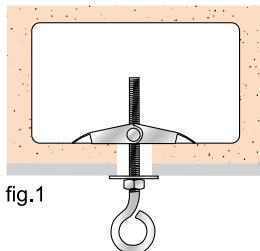
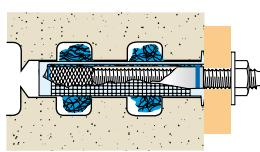

fig.1
fig.2
- **Mechanical interlock** (fig.1 & fig.2): the hole is modified to create a cavity or undercut either by a special drilling apparatus or by the anchor itself. The load is transferred to the base material through the undercut zone. When hollow base materials are used, it is the hollow parts themselves that are used as an undercut zone.
- undercut anchors (fig.1 & fig.2)